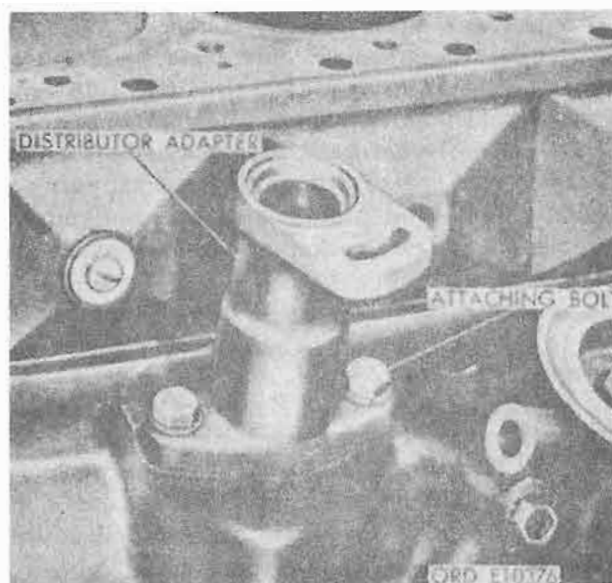

Figure 4-84. Distributor adapter.
a. *Distributor Adapter.* Remove two hex-head bolts and lockwashers securing distributor adapter to cylinder block. Pull out distributor adapter (fig. 4-84).